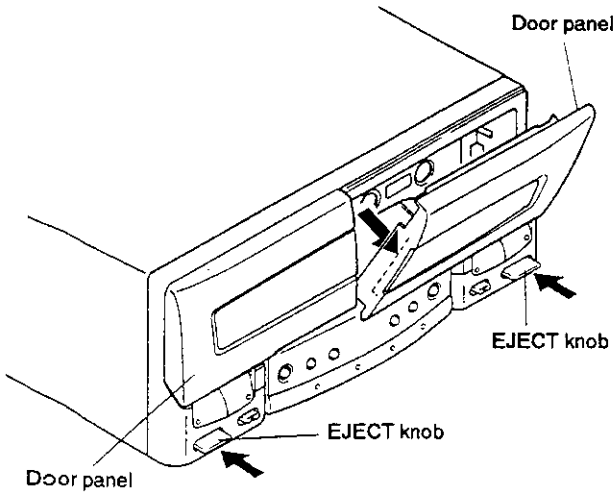

Fig. 7-4
1. Push the EJECT knob, and make the cassette door open. (See Fig. 7-4.)
2. Take the door panel off, as shown with an arrow in Fig. 7-4. Take the DECK I and DECK II doors off, one after the other.